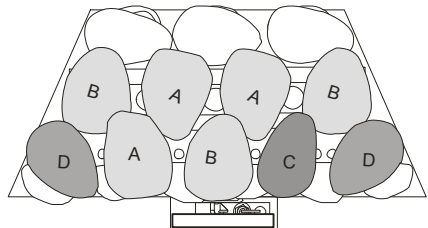

Figure 28
3. Place pebbles **A, B, C &** in position as shown in **Figure 28**.